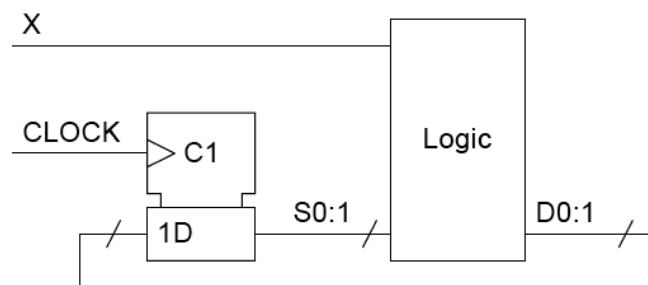

Figure 1.5
- (e) *Figure 1.5* shows the circuit of a synchronous state machine with one input X and four states defined by the 2-bit binary number $S0:1$.